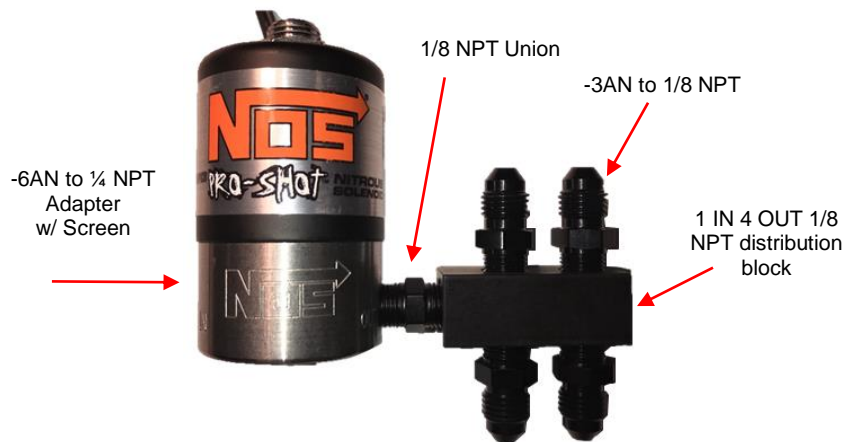

Figure 4 – Solenoid Assembly
1. Apply a small amount of PTFE thread sealant to the NPT threads of the **nitrous inlet filter adapter** (-6AN to 1/4 NPT straight adapter with screen) and insert into the **IN** side of the nitrous solenoid. Use a bench vise to tighten the fitting at least 1-1/2 turns after finger tight. See **Figure 4**.
2. Insert the 1/8 NPT plug into the **OUT** side of the nitrous solenoid (unless you plan on installing a nitrous purge valve). Use a bench vise to tighten the fitting at least 1-1/2 turns after finger tight. See **Figure 4**.